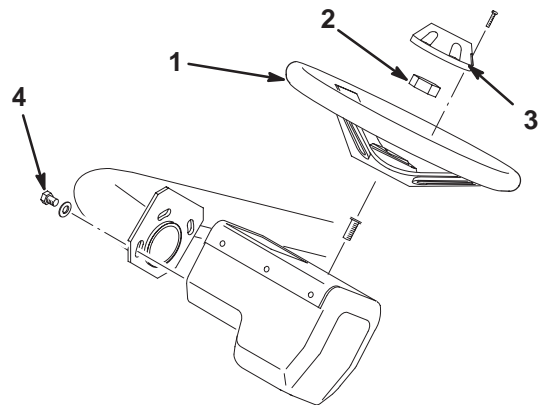

Figure 4
1. Slide the steering wheel onto the steering shaft and secure it with the jam nut (Fig. 4). Torque it to 35 ft.-lb. (47 N·m).
2. Install the cap to the steering wheel with the screw (Fig. 4).
Note: The steering wheel may be adjusted fore and aft for operator comfort by loosening the three mounting screws, pivoting the steering wheel to the desired operating position, and tightening the screws (Fig. 4).